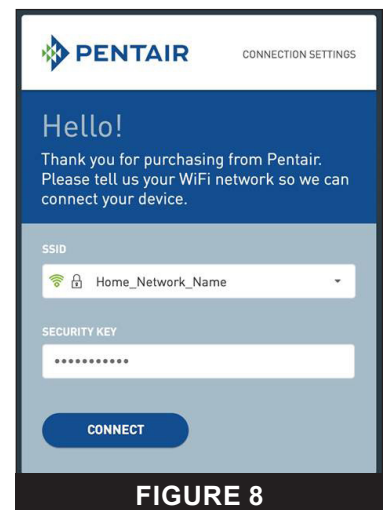

FIGURE 8
5. The pairing page will display. Select your WiFi router from the drop down SSID list and enter your router password into the security key field. See **FIGURE 8**.
6. Press CONNECT. See **FIGURE 8**.